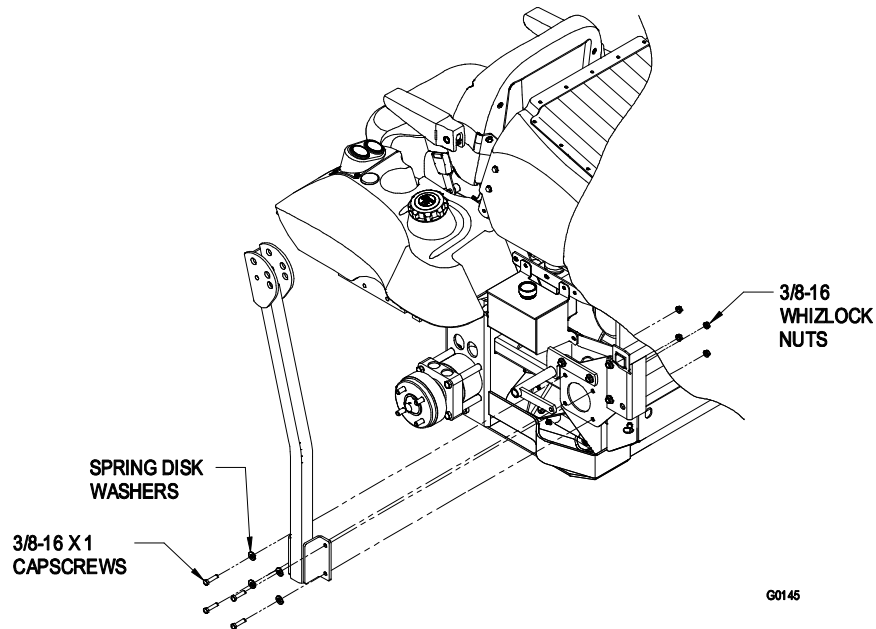

FIGURE 4
- 3.2.12 *For units with a ROPS installed:* Install the frame brackets (Item 16), and ROPS lower roll bar tubes **LOOSELY** to the mounting pads on the Lazer Z XP frame. Use the ROPS mounting hardware, 3/8-16 x 1 1/2 screws, 3/8 spring disk washers and 3/8-16 whizlock nuts. Make sure that the raised portion of the spring disk washer faces the head of the screw. See Figure 4.